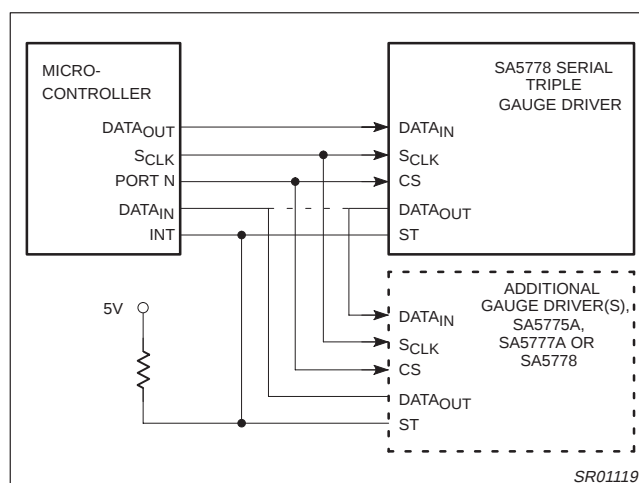
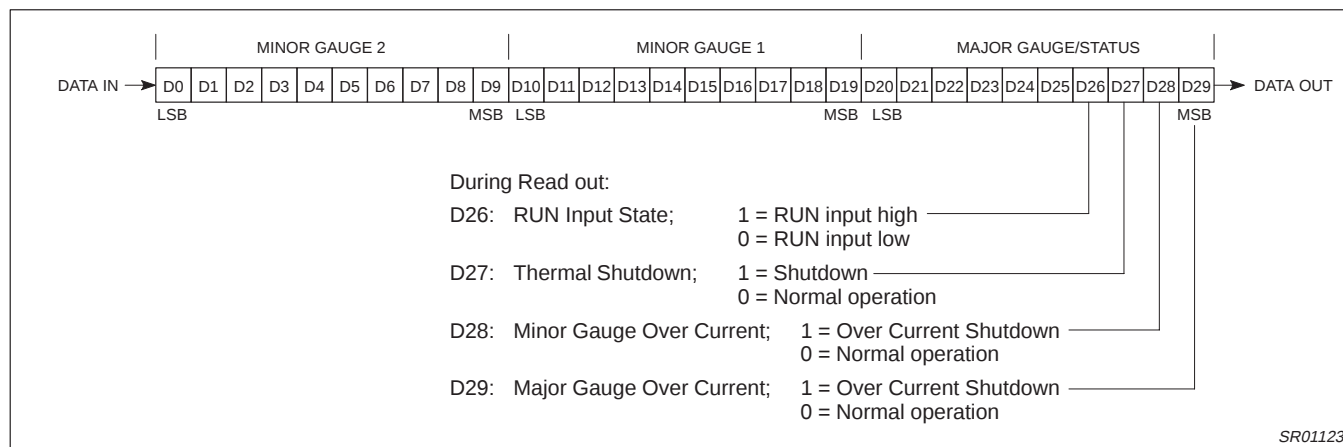

Figure 4. Serial Communications Between STGD, Microcontroller and Other Gauge Drivers
Figure 11. Internal Shift Register
Figure 4 demonstrates the connections between the STGD, the microcontroller, and optionally additional gauge drivers such as the SGD and DGD. With an active high on the chip select input (CS), data is shifted into the STGD through DATA_{IN} on the rising edge of S_{CLK}. Several gauge drivers may be wired in series using a common chip select and clock line, when more than three gauges are needed. The DATA_{OUT} pins are cascaded to the DATA_{IN} pins of the following gauge drivers. Status information can be returned to the microcontroller via the ST pins of each gauge driver. These are open-drain, active low outputs, which may be wire OR'ed together to signal that a fault, such as a thermal shut down, has occurred within one of the gauge drivers. This pin may be connected to a microcontroller port pin for polling in software, or may be connected to an external interrupt input to cause entry into an interrupt service routine. The STGD, may also pass status information back to the microcontroller serially. The rising edge of chip select loads status information into the shift register for the first four bits that will be shifted out of the STGD by the shift clock. Figure 11 shows the data bits within the shift register. A low on the ST pin signals that one or more status bits have been set in the status register. A high indicates all status bits are reset. The status output bits include minor gauge over current, major gauge over current, thermal shutdown and RUN. Gauge data is captured in latches by the falling edge of the chip select.
Figure 10 demonstrates the serial interface timing referenced in the AC specifications. Figure 11 shows the order of information transfer through the serial interface. On a low to high transition of the CS pin, status information replaces the four most significant bits of data in the shift register and are the first bits shifted out. Output data is changed on the falling edge of S_{CLK} , while input data is captured on the rising edge of S_{CLK} . Major gauge data is loaded first, starting with the most significant bit, followed by minor gauge 1 data then minor gauge 2 data.